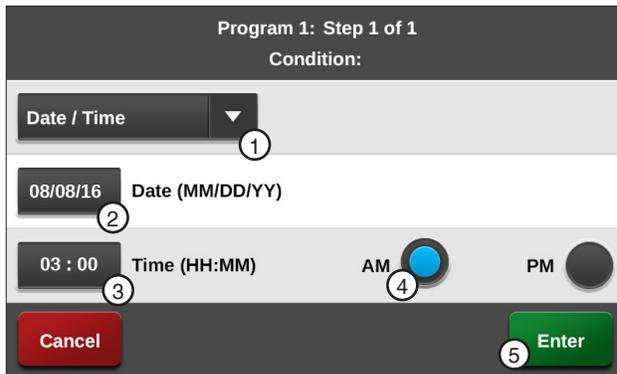

Figure 132-1 1. Date/Time Condition 4. AM
1. Push **Menu**, **Programs** and **Step Programs** to view the Step Programs screen. Refer to Figure 132-1.
- a) Select the **Choose Condition** drop-down menu and choose **Date/Time**. Refer to Figure 132-1.